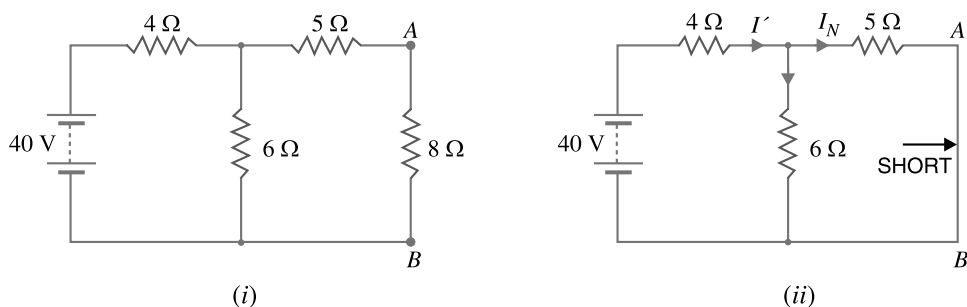

Fig. 1.44
**Example 1.15.** Using Norton's theorem, find the current in  $8\ \Omega$  resistor in the network shown in Fig. 1.44 (i).
**Solution.** We shall reduce the network to the left of  $AB$  in Fig. 1.44 (i) to Norton's equivalent circuit. For this purpose, we are required to find  $I_N$  and  $R_N$ .
(i) With load (i.e.  $8\ \Omega$ ) removed and terminals  $AB$  short-circuited [See Fig. 1.44 (ii)], the current that flows through  $AB$  is equal to  $I_N$ . Referring to Fig. 1.44 (ii),